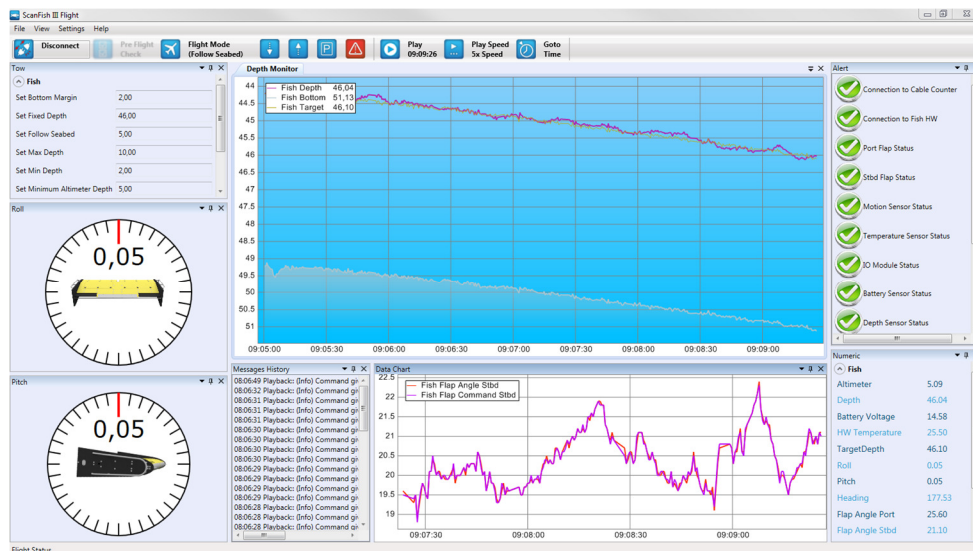

Figure 97 The ScanFish III Flight software
13. Lift the ScanFish III from all angles and verify consistency with the roll and pitch panels (Figure 97, bottom left).